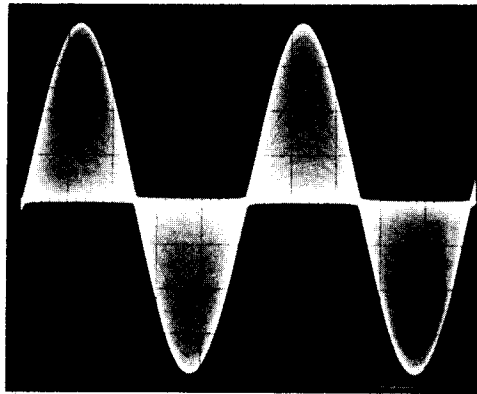

Fig. 2-8: Oscilloscope Display for Steps 13 and 15
- G ☐ Adjust the audio oscilloscope's timebase, vertical sensitivity, and trigger controls to obtain a display like the one in Fig. 2-8.
- E ☐ Adjust the oscilloscope's timebase, vertical sensitivity, and trigger controls to obtain a display like the one in Fig. 2-8.
- F ☐ Set the audio oscillator's frequency to 50Hz, adjust the audio oscillator's output level until the 8185A Stereo Generator's VU meter reads between "-3VU" and "0VU", then adjust the oscilloscope's timebase, vertical sensitivity, and trigger controls to obtain a display like the one in Fig. 2-8.
- ☐ G Set the audio oscillator's frequency to 15kHz, adjust the audio oscillator's output level until the 8185A Stereo Generator's VU meter reads between "-3VU" and "0VU", then adjust the oscilloscope's timebase, vertical sensitivity, and trigger controls to obtain a display like the one in Fig. 2-8.